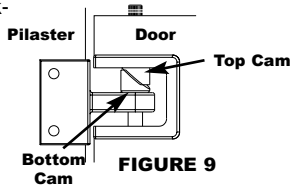

FIGURE 9
B. Connect the pilaster portions to the door portions of hinges by inserting the hinge pin through the top and bottom of the door until the pin is flush with the door edge. See figure 9.